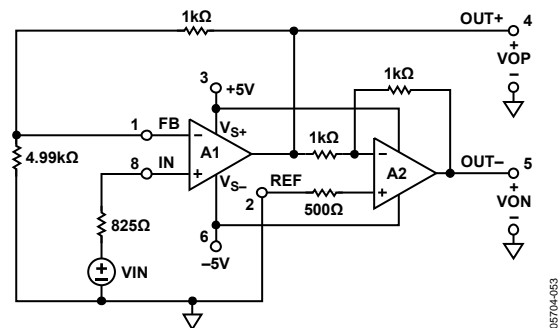
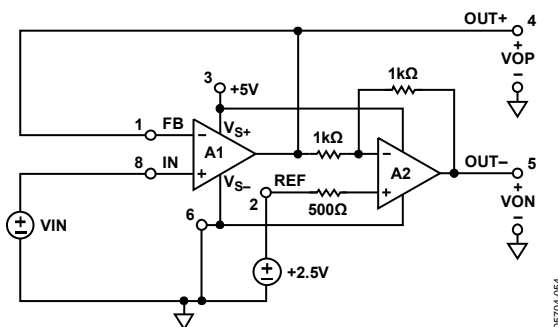
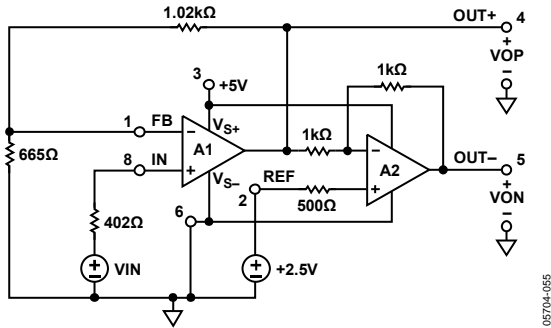

Figure 48. Dual Supply, G = 2.4, Single-Ended-to-Differential Amplifier
Figure 49. Single +5V Supply, G=2 Single-Ended-to-Differential Amplifier
Figure 50. 5 V Supply, G = 5, Single-Ended-to-Differential Amplifier
Figure 48 shows an example of a dual-supply connection. In this example, VG and VREF are set to 0 V, and the external RF and RG network provides a noninverting gain of 1.2 in A1. This example takes full advantage of the rail-to-rail output stage. The gain equation is
Figure 49 shows a single 5 V supply connection with A1 used as a unity gain follower. The 2.5 V at the REF pin sets the output common-mode voltage to 2.5 V. The transfer function is then
In this case, the linear output voltage is limited by A1. On the low end, the output of A1 starts to saturate and show degraded linearity when VOP approaches 200 mV. On the high end, the input of A1 becomes saturated and exhibits degraded linearity when VIN moves beyond 4 V (within 1 V of VCC). This limits the linear differential output voltage in the circuit shown in Figure 49 to about 7.6 V p-p.
Figure 50 shows a single 5 V supply connection for G = 5. The  $R_F$  and  $R_G$  network sets the gain of A1 to 2.5, and the 2.5 V at the REF input provides a centered 2.5 V output common-mode voltage. The transfer function is then
The output range limits of A1 and A2 limit the differential output voltage of the circuit shown in Figure 50 to approximately 8.4 V p-p.
Table 7, Table 8, and Table 9 show typical error budgets for the circuits shown in Figure 48, Figure 49, and Figure 50.
**Table 7. Output Voltage Error Budget for G = 2.4 Amplifier Shown in Figure 48**
**Table 8. Output Voltage Error Budget for Amplifier Shown in Figure 49**
**Table 9. Output Voltage Error Budget for G = 5 Amplifier Shown in Figure 50**
Table 10, Table 11, and Table 12 show the noise contributions and output voltage noise for the circuits in Figure 48, Figure 49, and Figure 50.
**Table 10. Output Voltage Noise, G = 2.4 Differential Amplifier Shown in Figure 48**
**Table 11. Output Voltage Noise, G = 2 Differential Amplifier Shown in Figure 49**